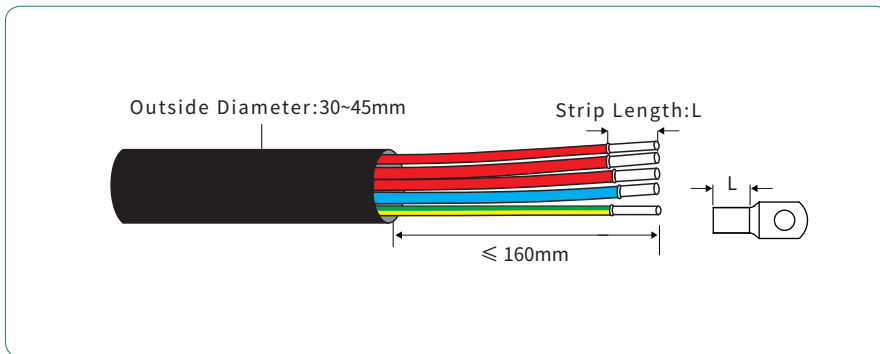

Figure 4-18
② Put the cable through the cable gland, and strip off the outer insulation sheath  $\leq 160\text{mm}$ , according to the size of OT/DT terminals to peel off a proper length of the 3L /PE / N wires, then insert the conductor core into the OT/DT terminals and press with a hydraulic clamp. As shown in Figure 4-18: